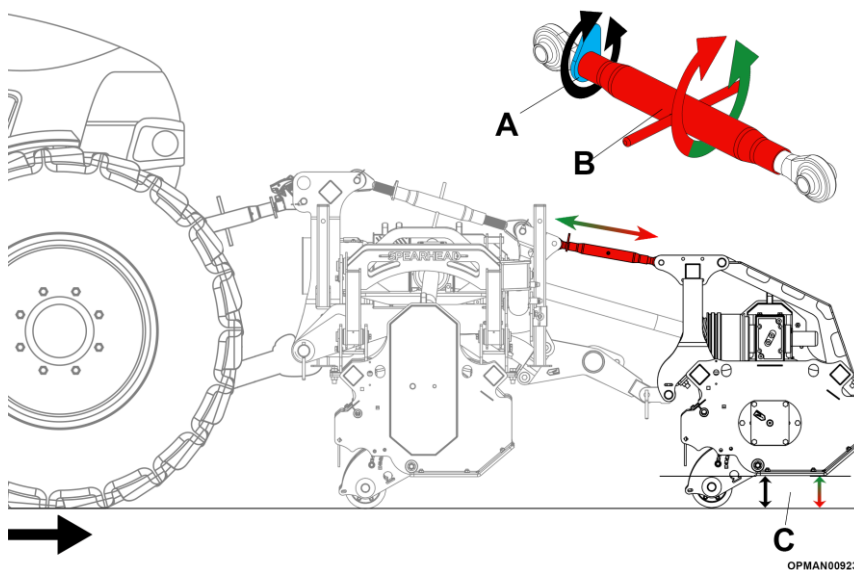

Figure 4.38 – Trident Mounted Front/Rear Body Levelling
- 4.7.2.4 Loosen the locking collar on the top link between the centre chassis and front/rear body; see Figure 4.38/4.39 (A) and turn the barrel (B).